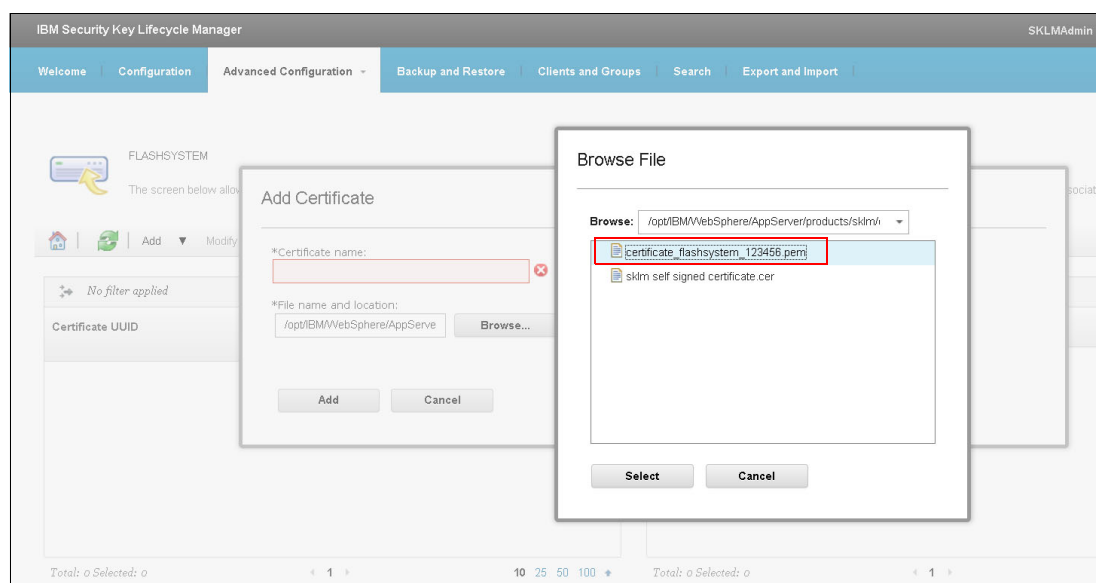

Figure 7-53 Browsing for the FlashSystem 900 certificate in the SKLM
18. The Advanced Configuration window opens. Click **Add** → **Certificate**. Browse for the FlashSystem 900 certificate (see Figure 7-53) that you copied to the SKLM server in Step 16 on page 266. Click **Select** → **Add** to import the FlashSystem 900 certificate.